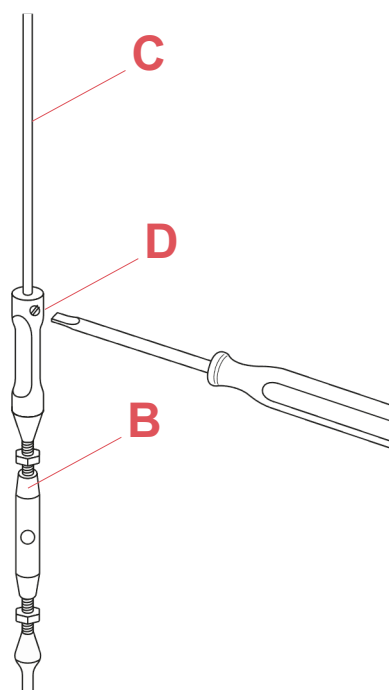

Fig.2
Insert the end point of the steel suspension cable (C) into the upper hole of the turnbuckle (B) and then fasten the locking screw (D). (Fig.2 page 11)